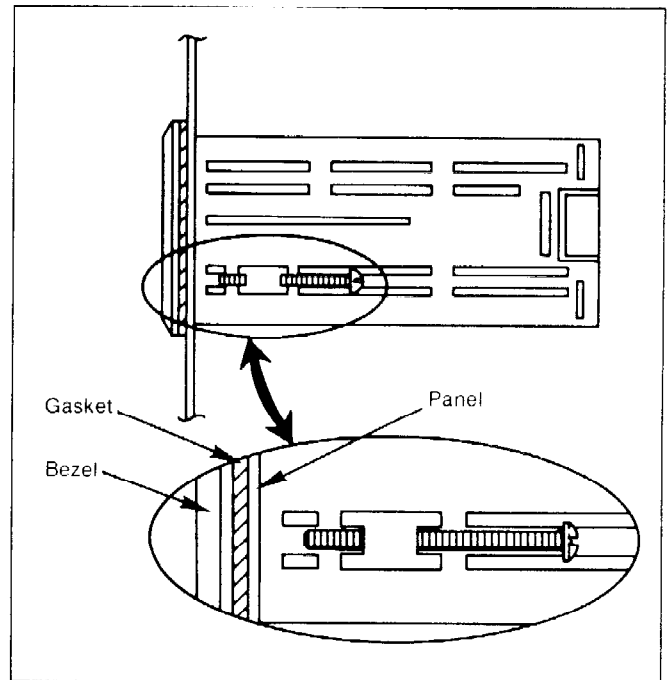

Figure 4-1. Mounting Assembly.
5. Install the Phillips head screws (provided) in the mounting assembly brackets and insert in holes located on both sides of the counter (see Figure 4-1).